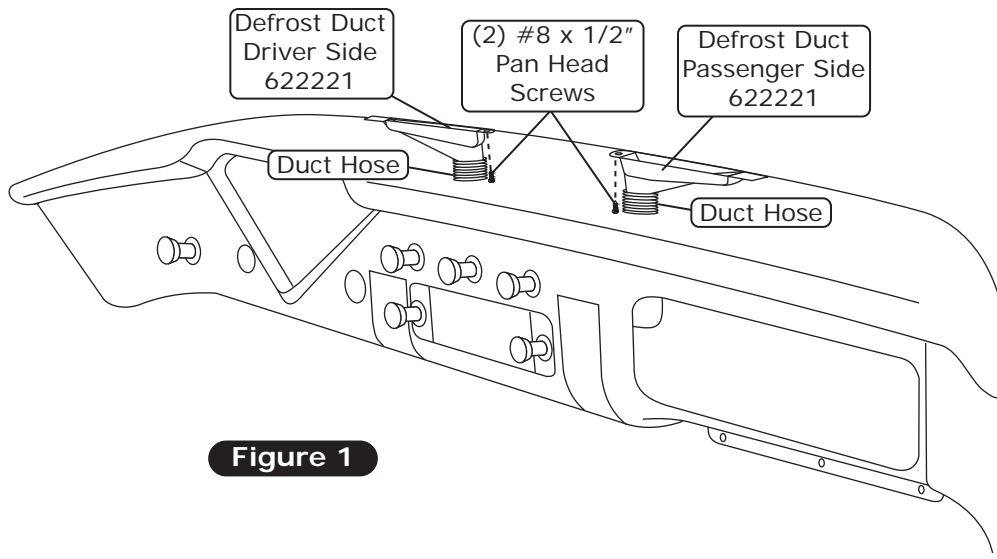

Figure 1
2. Install the defrost duct hose sections as shown in Figure 1, below and Figure 1, Page 20.